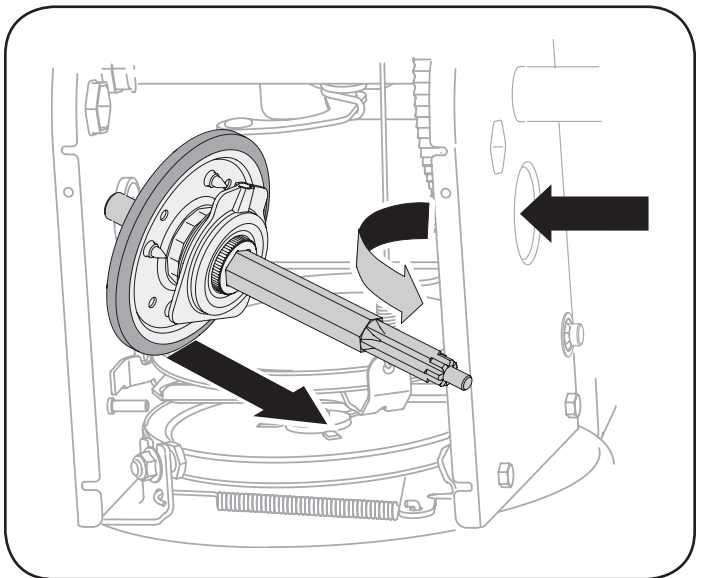

Figure 35
- Carefully position the hex shaft downward and to the left before carefully sliding the friction wheel assembly off the shaft. See Figure 35.